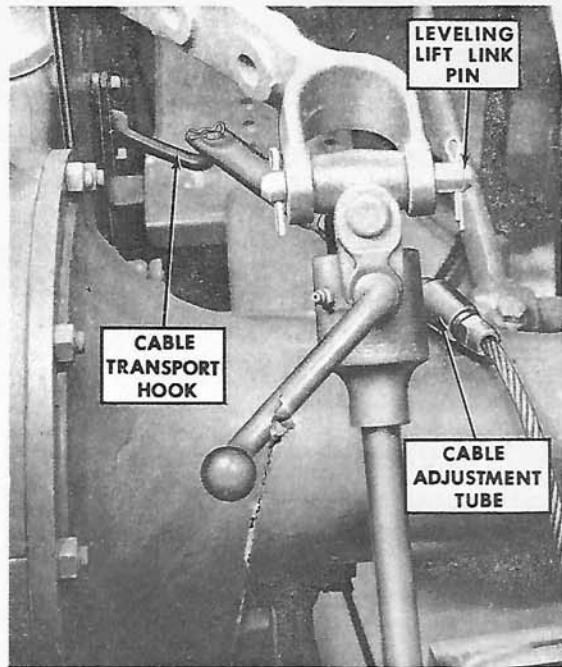

Figure 2
1. With the cable slack, remove the cotter pin from the right side of the leveling lift link pin as shown in Figure 2.
2. Remove the cable tube from the pin and position it on the transport hook as shown in Figure 2. Secure the cable tube on the hook with the hair pin as shown. Replace the cotter pin in the leveling lift link pin.
The blade lift height and digging depth shown in the chart on page 2 can be obtained by adjusting the cable assembly at the point of attachment to the rear lift link of the tractor (see Figure 2). To adjust the cable length, disconnect the cable adjustment tube from the lift link, loosen the jam nut and turn the tube to shorten or lengthen the cable for the desired adjustment. Reposition the jam nut tightly against the tube after the adjustment has been made.